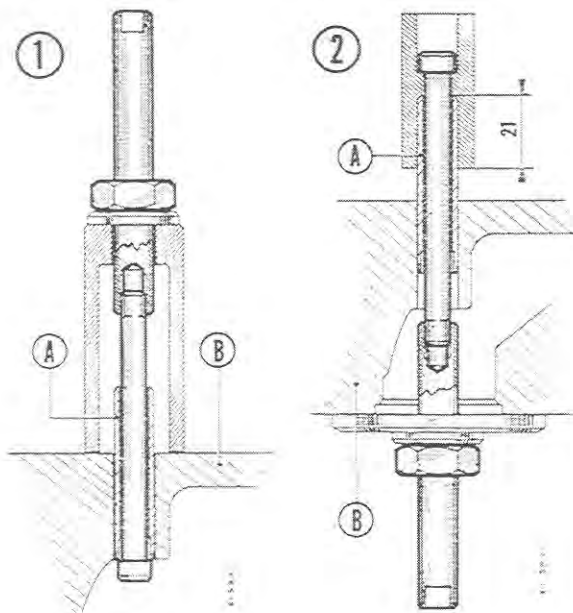

Fig. 3
Remove the valve guides using the tool MIMI-A positioning it as indicated in Fig. 3.
- 1) Put the valve guides in place using the tool MIMI-A positioning it as shown in Fig. 3.